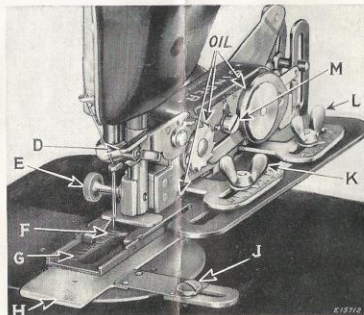

Fig. 2. Right Side, Showing Feed Cover Plate
2. Place the feed cover plate (H) in position as shown in Fig. 2.
The space between the stitches is determined by the position of the pointer (M, Fig. 2). For larger space turn pointer toward L, and for smaller space toward S.
To change width of bight, loosen thumb nut (K, Fig. 2) and move it toward W for wider bight, or toward N for narrower bight.
To change the width of the cutting space, loosen the thumb nut (L, Fig. 2) and move it toward W for wider space, or toward N for narrower space.
To make a tack, move the nut (L, Fig. 2) all the way back to N.
Occasionally apply a drop of Singer oil or Singer motor lubricant to the points shown by arrows in Figs. 2 and 3, then wipe dry so as not to stain the work.